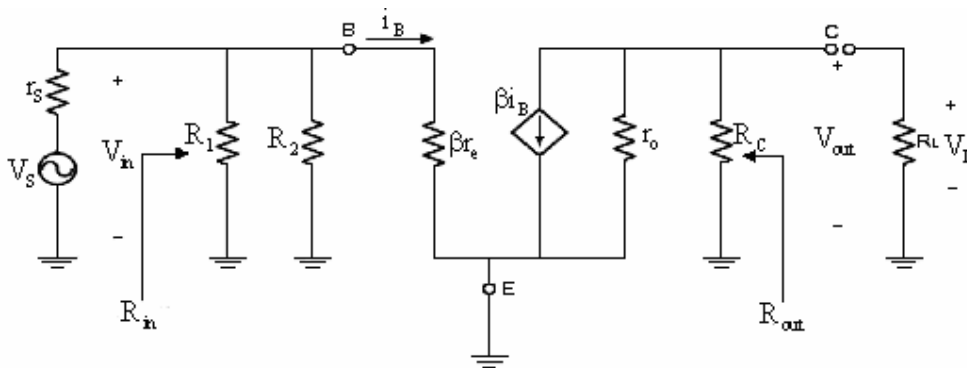

Fig.2: AC Equivalent Circuit of CE Amplifier.
The AC parameters for the amplifier can now be analyzed. The AC equivalent circuit is shown in Figure 2. The capacitors appear to be an AC short. For this reason, the AC equivalent circuit does not contain R_E . Using the superposition theorem, V_{CC} is replaced with a short, placing it at AC ground. The analysis steps are:
2. Compute the amplifier's voltage gain. Voltage gain is the ratio of the output voltage divided by the input voltage. The input voltage is across the AC emitter resistance to ground which, in this case, is r_e . The output voltage is taken across the AC resistance from collector to ground which, in this case, is R_C . For the circuit in Figure 2, the output voltage divided by the input voltage can be written: